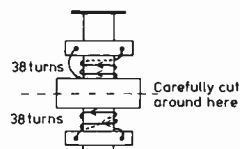

Fig. 1: Details of the line output transistor balancing coil L5003, which is at the extreme top of the line scan panel.
Fig. 1: G4IJE's 50MHz narrow-band preamplifier. L1 consists of 9 turns, 22g, tapped 2½ turns from the chassis end; L2 has 10 turns, 22g, tapped 1½ turns from the 12V end.
preamplifier (see Fig. 1) designed by Paul Turner (G4IJE) is worth serious consideration. Once again a dual-gate transistor is used, this time the higher performance BF981 which provides higher gain and lower noise than the device used in the Cirkit project. The input and drain load circuits are both tuned by miniature variable trimmers (5-65pF, RS type 125-660) and can be peaked above and below the 50MHz band. This circuit is for the more experienced r.f. operator, since care must be taken over the screening, decoupling and close observation of v.h.f. constructional techniques (i.e. minimal lead lengths etc.) if stability is to be achieved. Our thanks to Paul and the Six Metre Group for permission to reproduce the circuit which originally appeared in their bulletin *Six News*.
(1) Unscrew the four mounting screws then unsolder the whole coil from the upper board (take care not to leave little solder bridges across the print).
(2) Very carefully cut around the centre of the coil former with a junior hacksaw until you just hear the blade contact the stuck ferrite core (see Fig. 1).
(3) Unscrew one half of the assembly from the other, gently – they are not connected electrically.
(4) Gently unscrew the protruding ferrite core from one half of the assembly, using hand pressure only.
(5) The threads of the former can now be cleaned and the core reinserted with a trace of silicone grease on its threads. The whole assembly can then be resoldered to the board. Use a small amount of Araldite to hold the cut halves of the coil together.